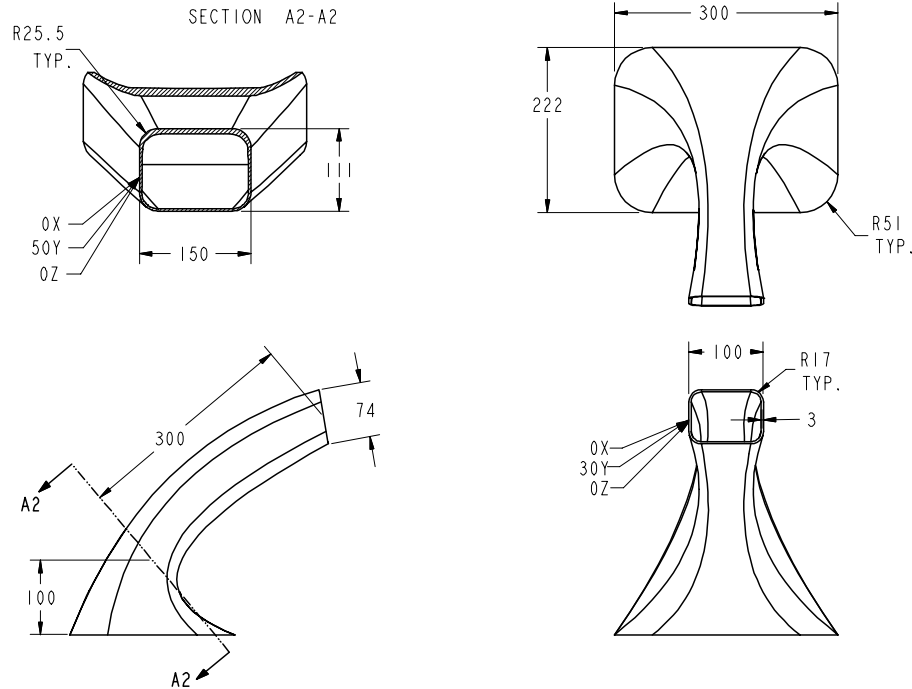

Figure 7-115 Sectioned, left-side, front, and top views of the model
In this tutorial, you will create the model of a tap shown in Figure 7-115. All dimensions for the three sections are shown in the same figure. **(Expected time: 30 min)**
- Examine the model and determine the number of sections in the blend feature, refer to Figure 7-115.